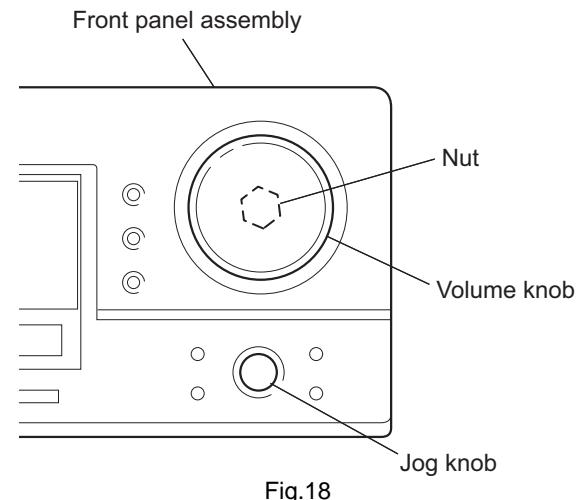

Fig.18
2.16 Removing the system control board and power switch board (See Figs.18 and 19)
- (1) Pull out the volume and jog knobs from the front side of the front panel assembly, remove the nut attaching the system control board. (See Fig.18)